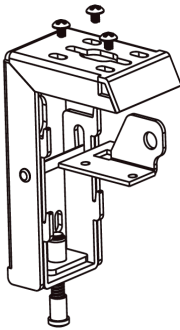

Fig. 14
2. Attach the ceiling hangers to the wall brackets with the included M5x10 mm screws supplied to the wall brackets and make sure that the screws on the wall bracket are tight. (Fig. 14 and 15)